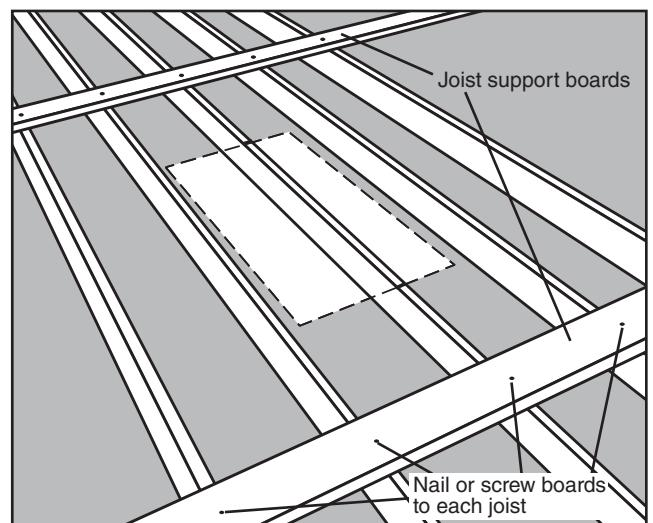

FIGURE 9
- Step 2.** Cut (2) joist-sized boards long enough to span (2) joists on each side of your chosen location (See Figure 9). These boards will support the joists that will be cut and help keep the ceiling from sagging or completely collapsing while you are working in the overhead space.
- Step 3.** Place these boards approximately 24" from the edge of your chosen location and nail (See Figure 9).